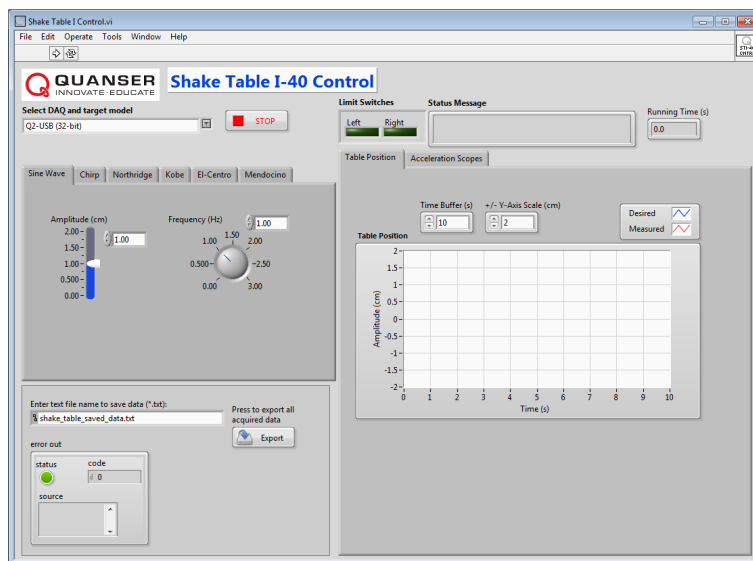

Figure 2.3: Running Shake Table I Software - calibration to center position
6. The table is first *calibrated* to the center (i.e. mid-stroke) position. Once this is done the table should begin tracking the commanded sine wave, as depicted in Figure 2.3. If there are operation issues, see the Shake Table I-40 User Manual. Otherwise continue with the following steps on how to give different commands.